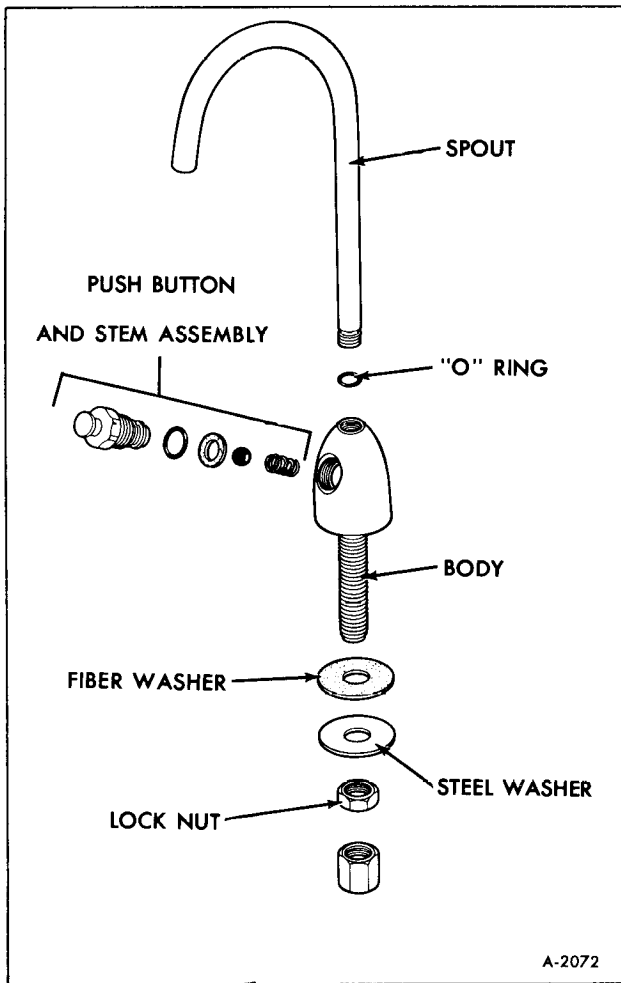

Figure 16–Water Purifier Faucet
3. Remove lock nut, steel and fiber washers (See figure 16).
REMOVAL (FIGURE 16)
INSTALLATION (FIGURE 16)